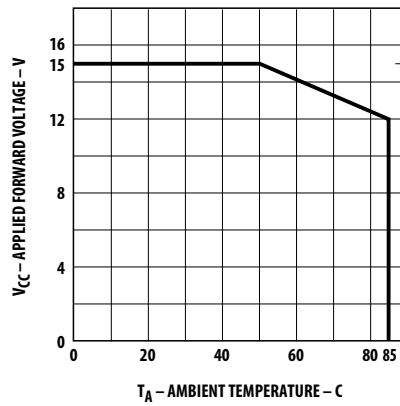

Figure 4. Maximum allowed applied forward voltage vs. ambient temperature  $R\theta_{JA} = 175^\circ\text{C}/\text{W}$ . 12 volt devices.
- Derate from TA = 50°C at 0.086 V/°C, see Figure 4.